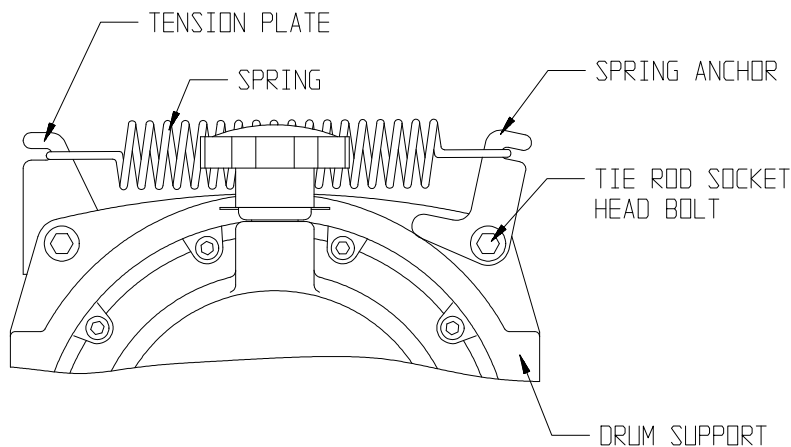

FIGURE 2
3. Remove the two bolts on the other tie rod. Leave the tie rod in place, position the spring anchors between the bolt heads and the drum supports as shown in **FIGURE 2**. Torque the bolts to 18-22 Lb.-ft. (24.4-29.8 N•m).